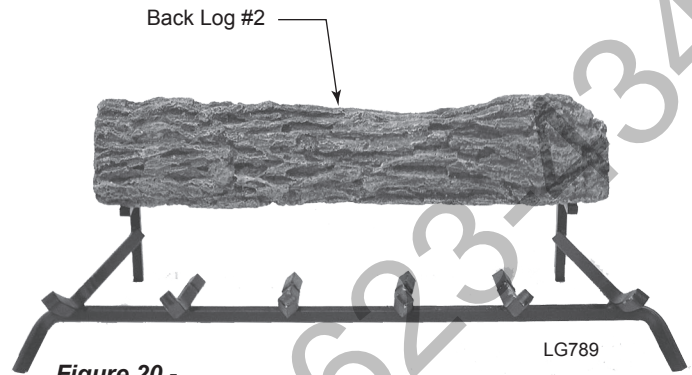

Figure 20 - Place Back Log #2 on Grate Bars at Back of Grate.
1. Place Back Log #2 on grate bars on back of grate. *Figure 20*